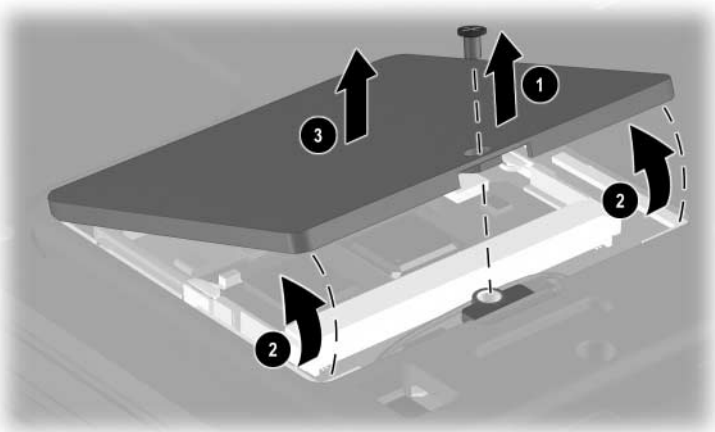

Figure 5-10. Removing the Mini PCI Communications Slot Cover
3. Remove the PM2.0 × 5.0 screw ❶ that secures the mini PCI compartment cover to the base enclosure (Figure 5-10).
4. Lift the front edge of the cover and swing it back ❷.
5. Remove the cover ❸.